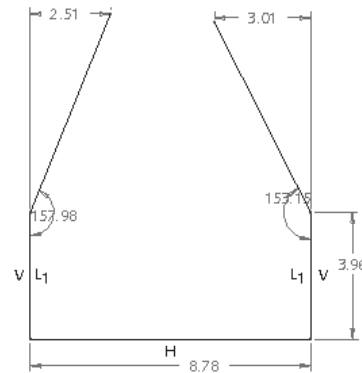
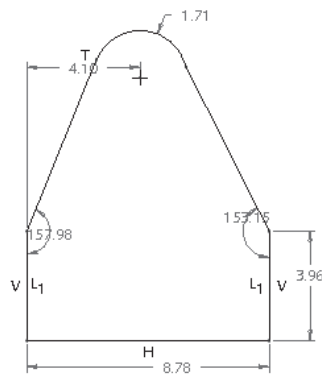

Figure 1-23 Partial sketch with weak dimensions
Figure 1-24 Sketch with arc
- Draw an arc and a circle, refer to Figures 1-24 and 1-25.
Figure 1-23 shows the lines that you have drawn. Now, the arc and the circle will be drawn.
4. As the tangent constraint appears, click to end the arc creation. You will notice that the tangent constraint with a symbol **T** appears at the endpoints of the arc, as shown in Figure 1-24. Press the middle mouse button to end the arc creation.
Note that in Figure 1-23 there are some weak dimensions that are not displayed in Figure 1-24. This is because the weak dimensions are deleted without confirming their deletion. Hence, after drawing the arc, some weak dimensions get deleted automatically.
- Modify all dimensions, as shown in Figure 1-24. After modifying the dimensions, choose the **Regenerate the section and close the dialog** button from the **Modify Dimensions** dialog box. A message **Dimension modifications successfully completed** is displayed in the message area.